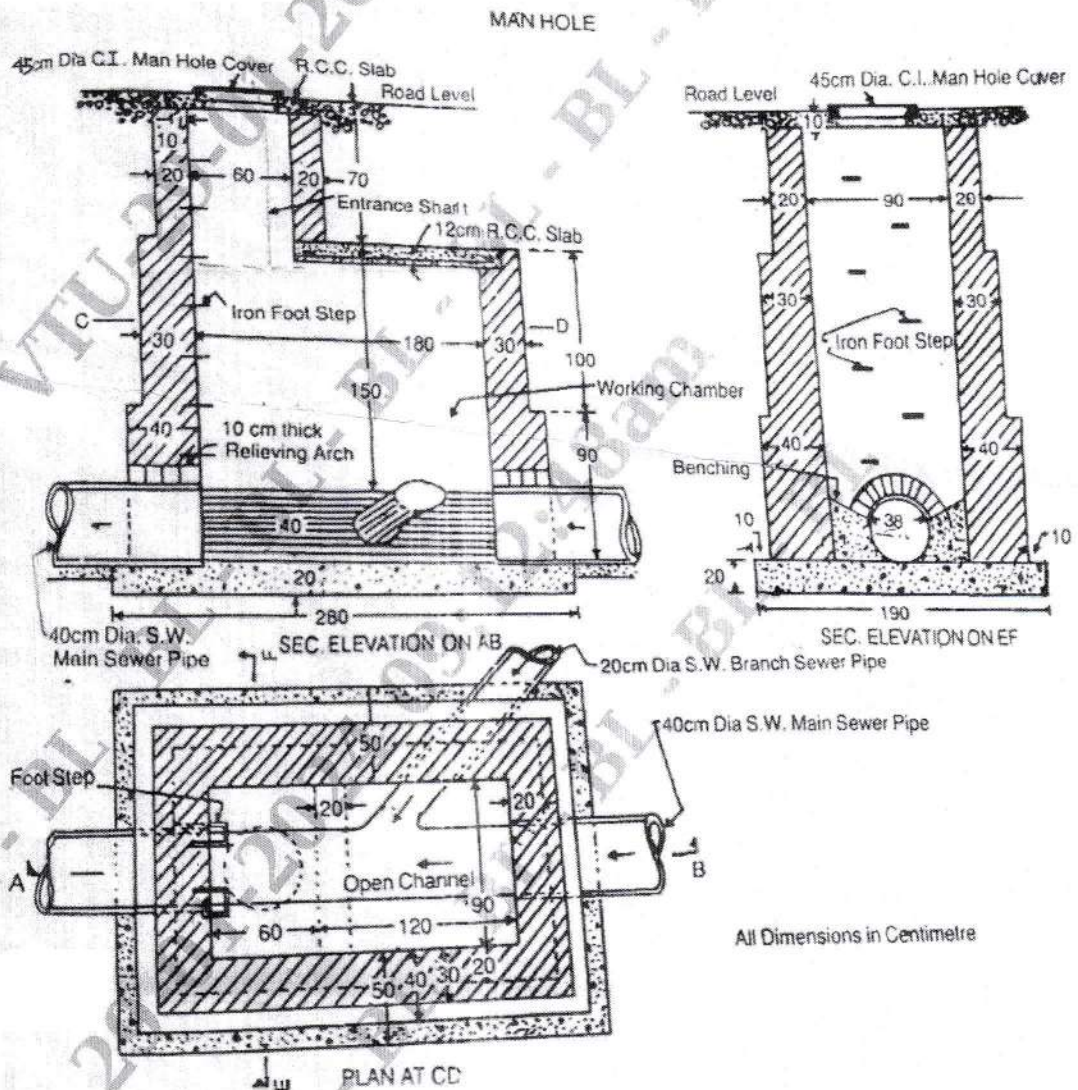

Fig.Q.3
- 3 The details of man hole is as shown in Fig.Q.3. Estimate the quantities for the following item of work: